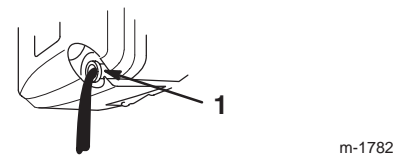

Figure 28
5. Tip the lawn mower onto its *left* side, allowing the oil to drain into the drain pan (Fig. 28).